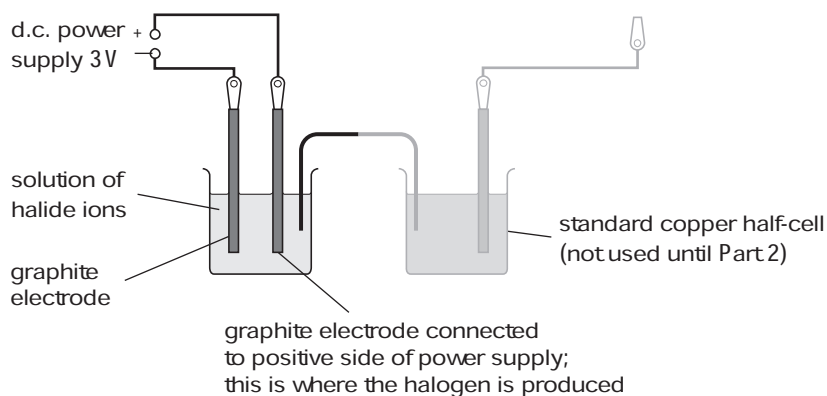

Figure 1 Arrangement for making the halogen/halide ion half-cell
- 2 Start with the potassium iodide solution. Place two graphite electrodes into 50 cm³ potassium iodide solution in a beaker and connect them to the d.c. power supply. Place the salt bridge and the copper half-cell in position before you start the electrolysis, as shown in Figure 1 on the next sheet.